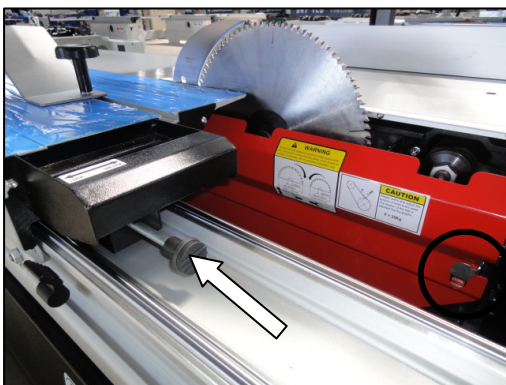

Figure 3-10.1
3. Move the sliding table to the left and push the handle to the 2nd stop before reach the 1st stop. (Fig. 3-10.1)
- ※ Notice: for safety concern, always close the blade guard when finished, (Fig. 3-10.1); move back the sliding table to the original position